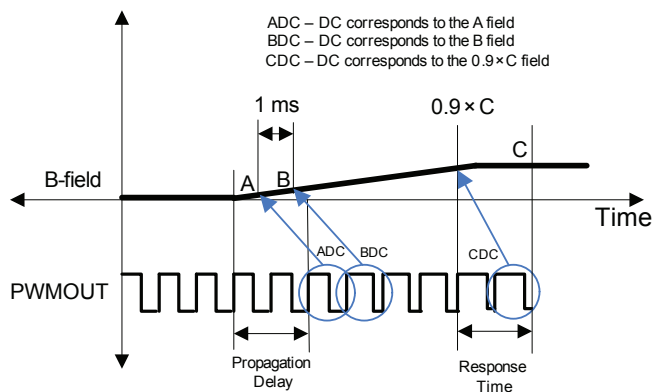

Figure 3: Definition of Response Time for PWM output
**Response Time:** The time interval,  $t_{RESPONSEPWM}$  or  $t_{RESPONSEVOUT}$ , between: a) when the applied magnetic field reaches 90% of its final value, and b) when the sensor IC reaches 90% of its output corresponding to the applied magnetic field (PWM duty cycle or analog  $V_{OUT}$ ). Figure 3 illustrates an example with the PWM output. Response time is conceptually the same for the analog output.